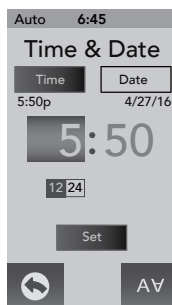

Figure 12.9c
2. Tap and scroll the hour block **5:50** to program and change the hour in 1-hour increments, Figure 12.9c. To switch from "AM" to "PM" you must round a 12-Hour period.